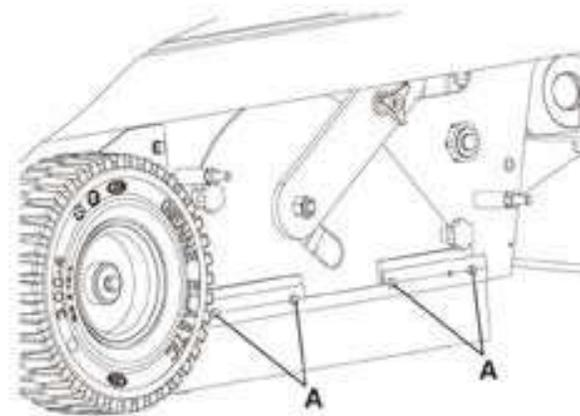

Figure 16
- 3) Check that distance from the ground of the side skirts (11 and 12) is within 0 – 0.12 in (0 – 3 mm) (A, fig. 13). If necessary, adjust the skirt height by using the slots on the screws (A, fig. 16).